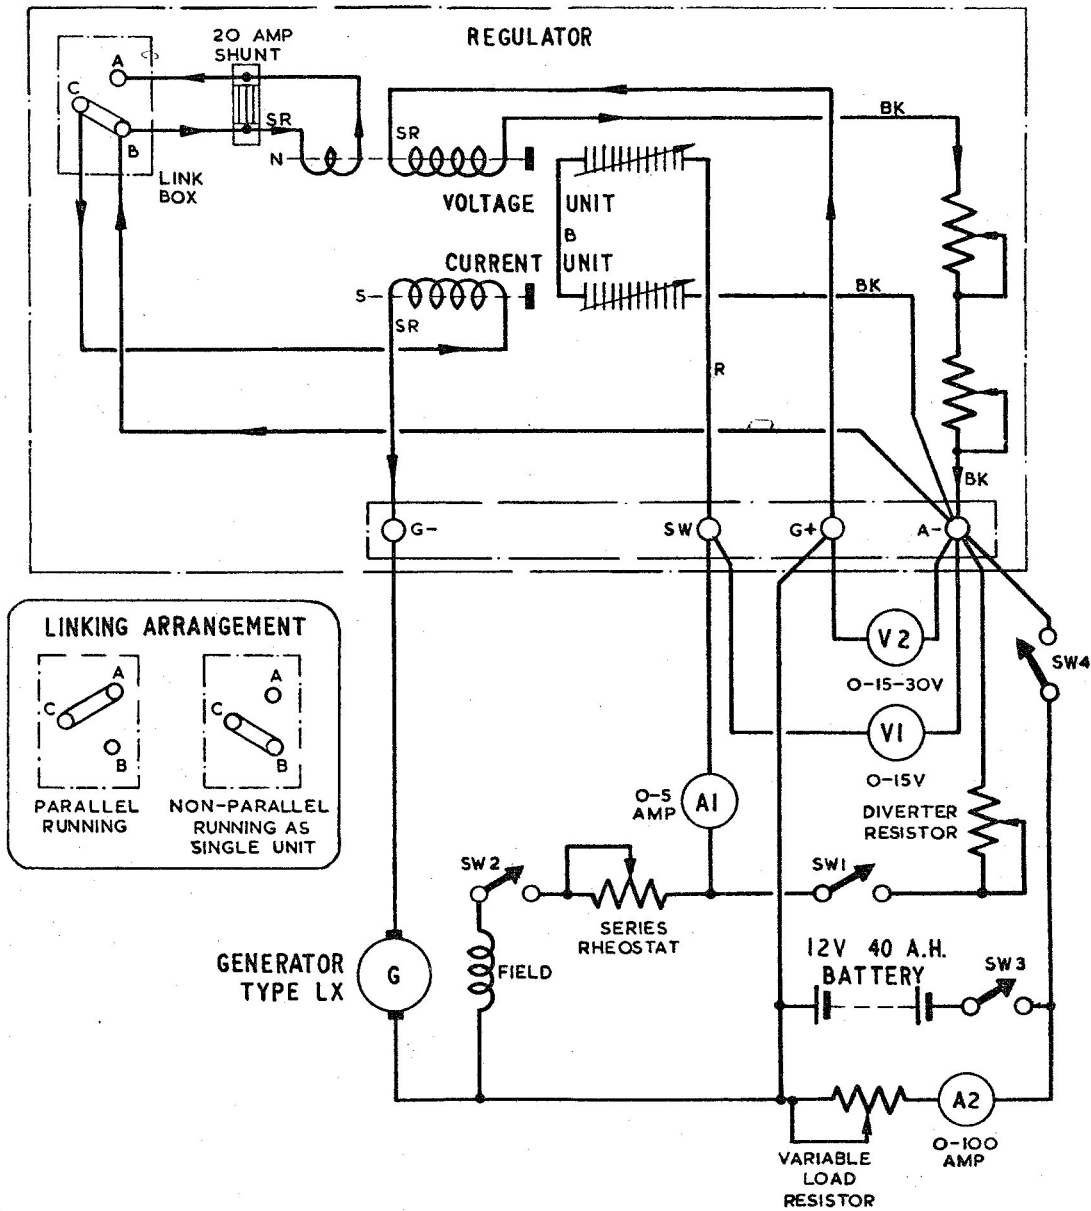

Fig. 1. Test circuit diagram
3. A circuit diagram is given in fig. 1. The ballast and trimmer resistors in series with the voltage coil are fitted underneath the base plate, the trimmer adjuster, which is slotted for screwdriver operation, being brought out to the front through a hole in the base plate.
6. It will be seen in the circuit diagram in fig. 1 that the operating coils of the voltage unit are so connected that they have polarity opposite to that of the current unit. In each instance, the start lead of the coil is indicated on the diagram by the letters SR, and on the regulator is coloured red. It is essential that this polarity be maintained should the internal connections of the regulator be disturbed at any time.
10. Connect the regulator in the test circuit as shown in fig. 1, the generator used being the Type LX. For all tests, the speed of the generator should be 5,000 r.p.m. unless otherwise specified, and the adjustable arm of the trimmer resistor should be in the mid position.